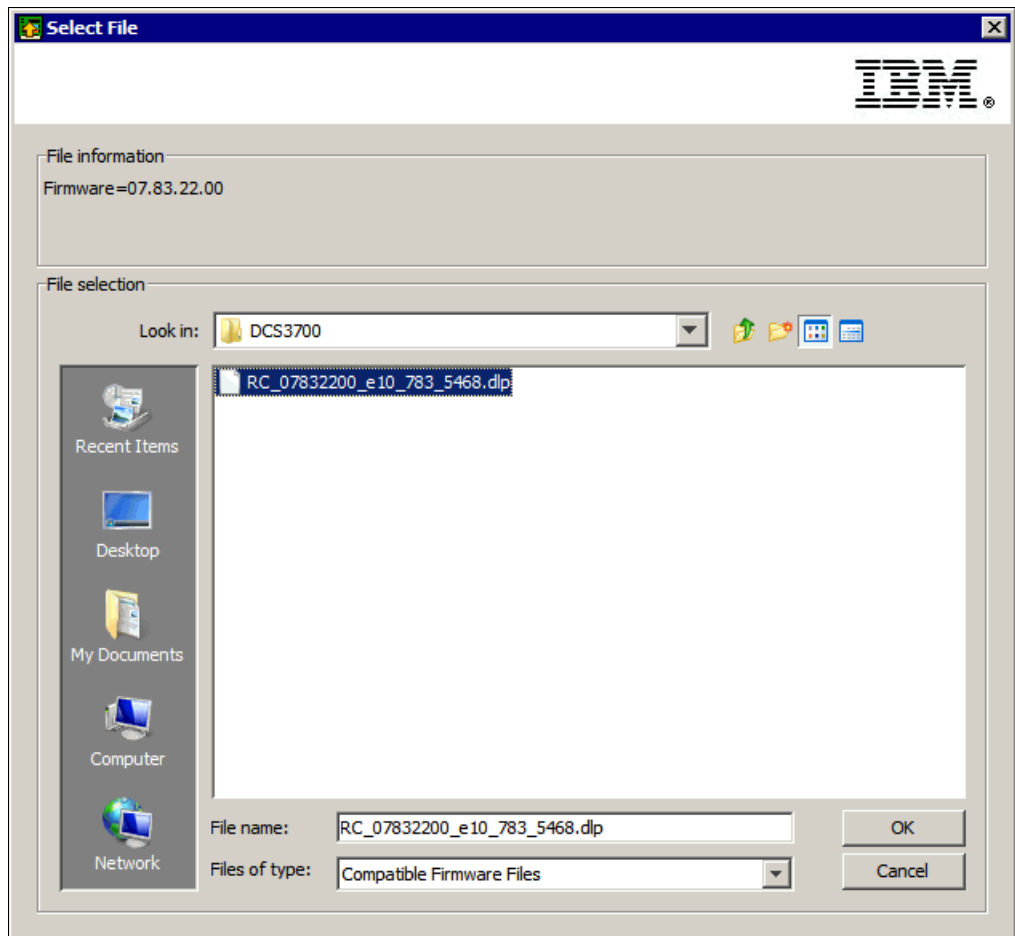

Figure 14-12 Select firmware file
- a. In the Selected firmware file pane, click **Browse** and select the firmware upgrade file, as shown in Figure 14-12.